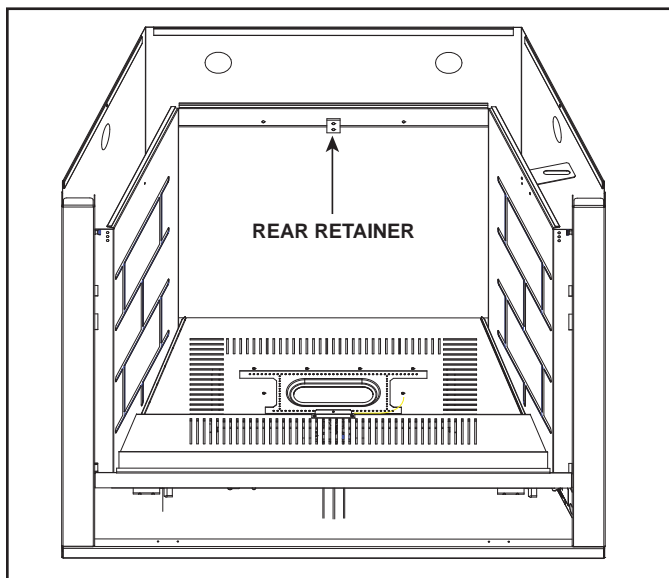

Figure 14.1 Install Rear Retainer
1. Install the rear glass panel as shown in Figure 14.1. the panel retainers and screws are included in the appliance manual bag.